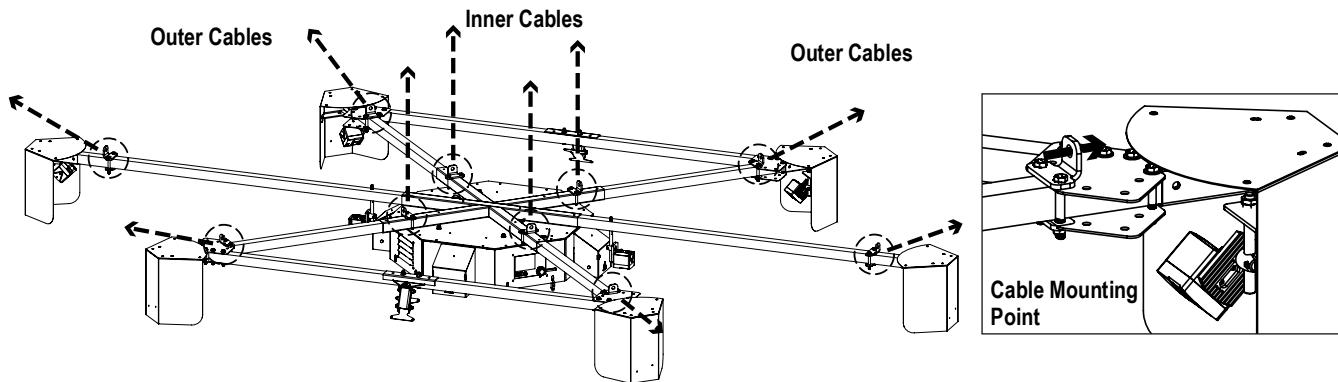

Figure 1. iDimension Mounting Points
6. Attach one turnbuckle (PN 169960) to each dimensioner inner cable mounting point (Figure 1 on page 2).